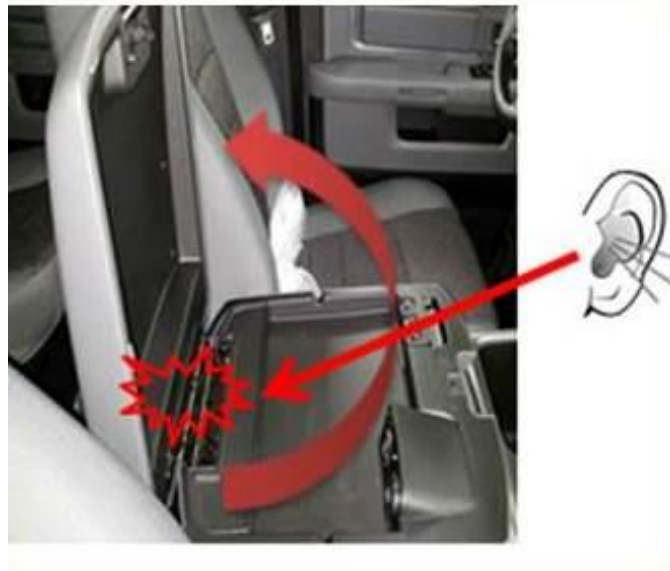

Fig. 2 Checking Lid Noise
3. Check the rear of the upper lid hinge for binding, hesitation or an audible clicking as shown in (Fig. 2).